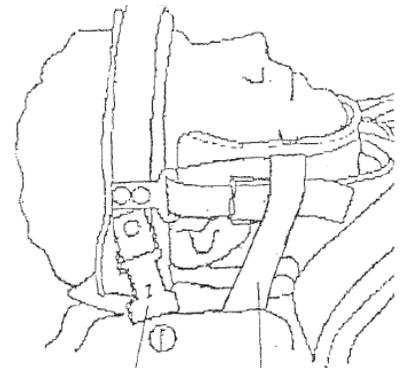

Figure 7: Attaching the occipital support
- Apply the occipital support (FIGURE 7) by sliding it under the patient’s head and fasten it snugly to the facemask using the four hook and pile straps. The inferior straps are routed through the chafes located on the lower part of the upright to prevent migration of the straps. Raise the patient to sitting position and make fine tuning adjustments as necessary. The facemask should be snug enough to limit teeth separation to not more than 1/2" when opening the jaw. A butterfly clip is supplied to keep the shoulder straps from migrating and is applied where the straps are crossed in the back.